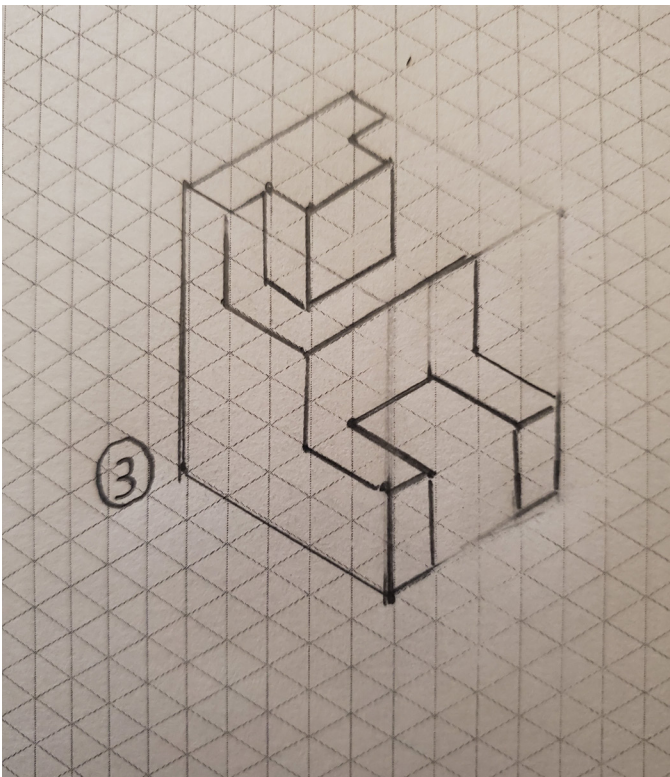

Figure 4.13 - Internal Surfaces
Step 3 - The third step is to identify internal features such as cut-outs or holes and incorporate those into your isometric pictorial. This step may or may not be needed depending on your object. See figure 4.13